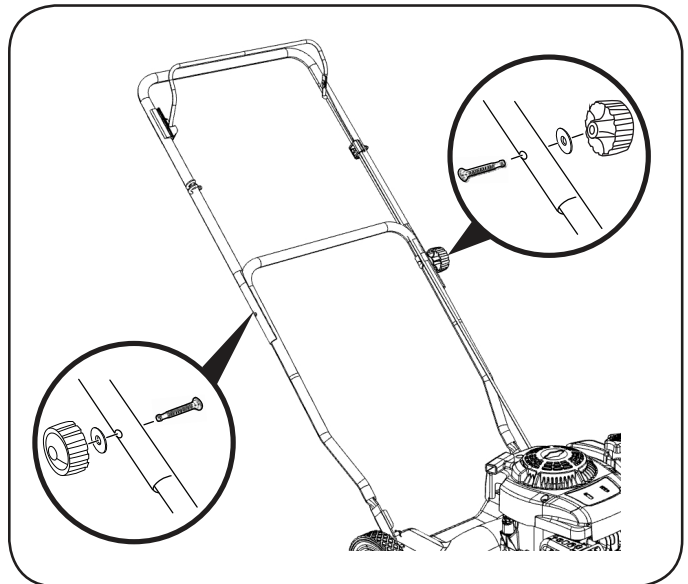

Figure 3
2. Attached the upper handle and secure it using the star knobs, washers, and carriage bolts (Figure 3).